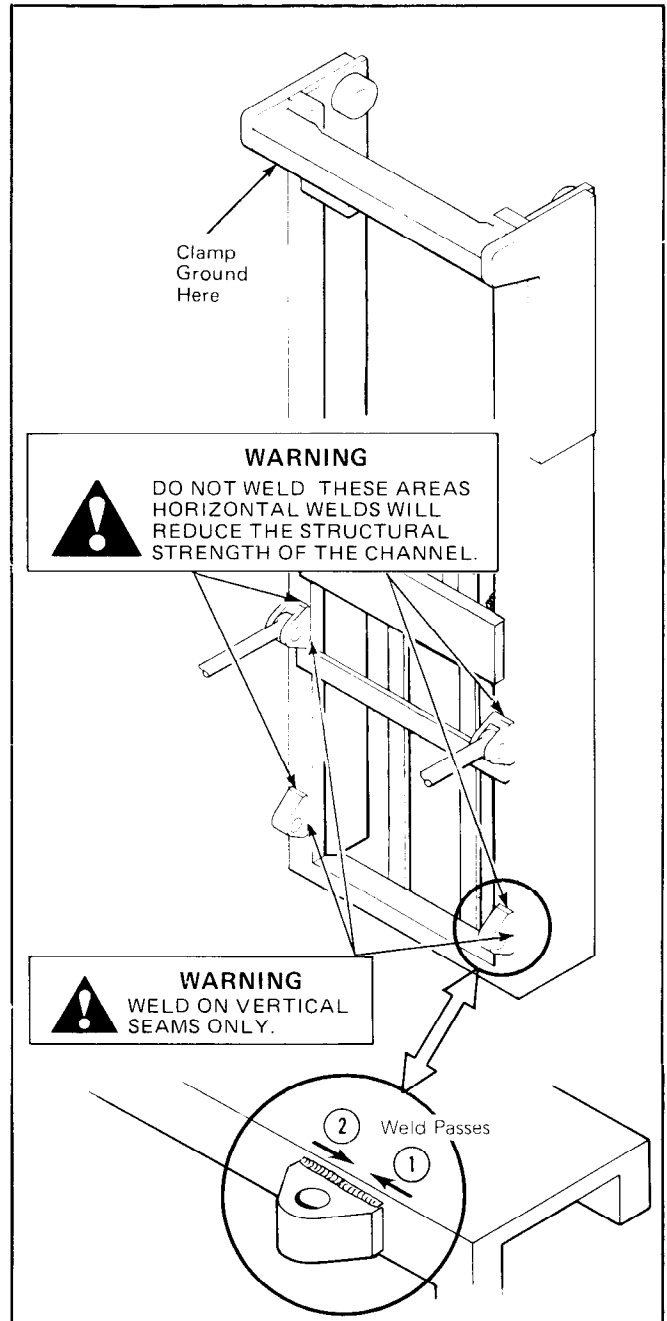

Figure 2. Mounting Brackets.
- f. Weld areas that will be vertical seams when the mast is standing upright only. DO NOT WELD ANY HORIZONTAL SEAMS. See Figure 2.
- h. **Weld each bracket in two passes. See Figure 2. Run the first weld from the bottom of the bracket to midpoint. Run the second weld from the top of the bracket to midpoint and overlap the first weld to eliminate arc craters. Let the weld slow cool.**